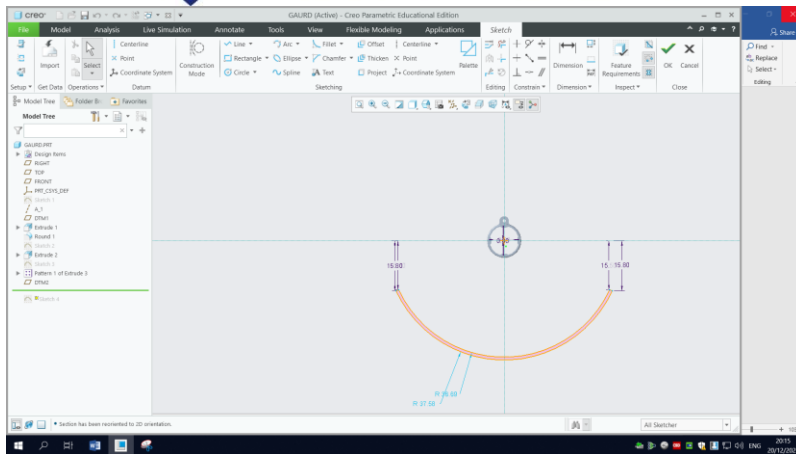

fig1.6
- Now select the projected plane as sketch surface. Sketch the extrude pattern referring the dimensions in fig 1.6 and extrude it to a height of **2mm** towards the front datum plane to make portion 4.